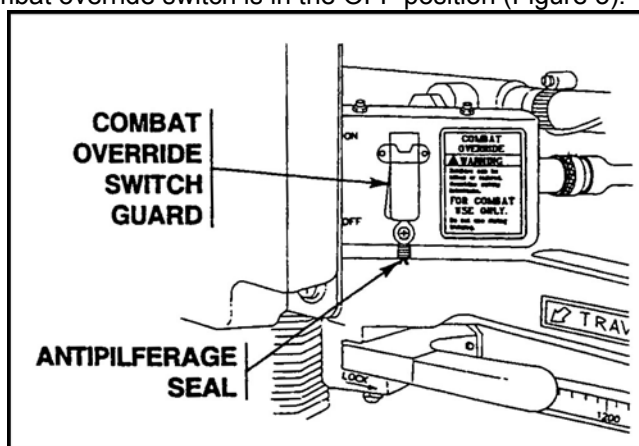

Figure 5. Combat override.
- j. Ensure the combat override switch is in the OFF position (Figure 5).